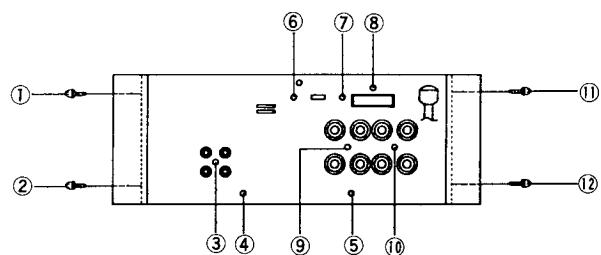

Fig. 3
1. Remove screws ① to ⑫ in Fig. 3, and then remove the rear panel
1. Remove the rear panel in Fig.3 (Refer to step ③)